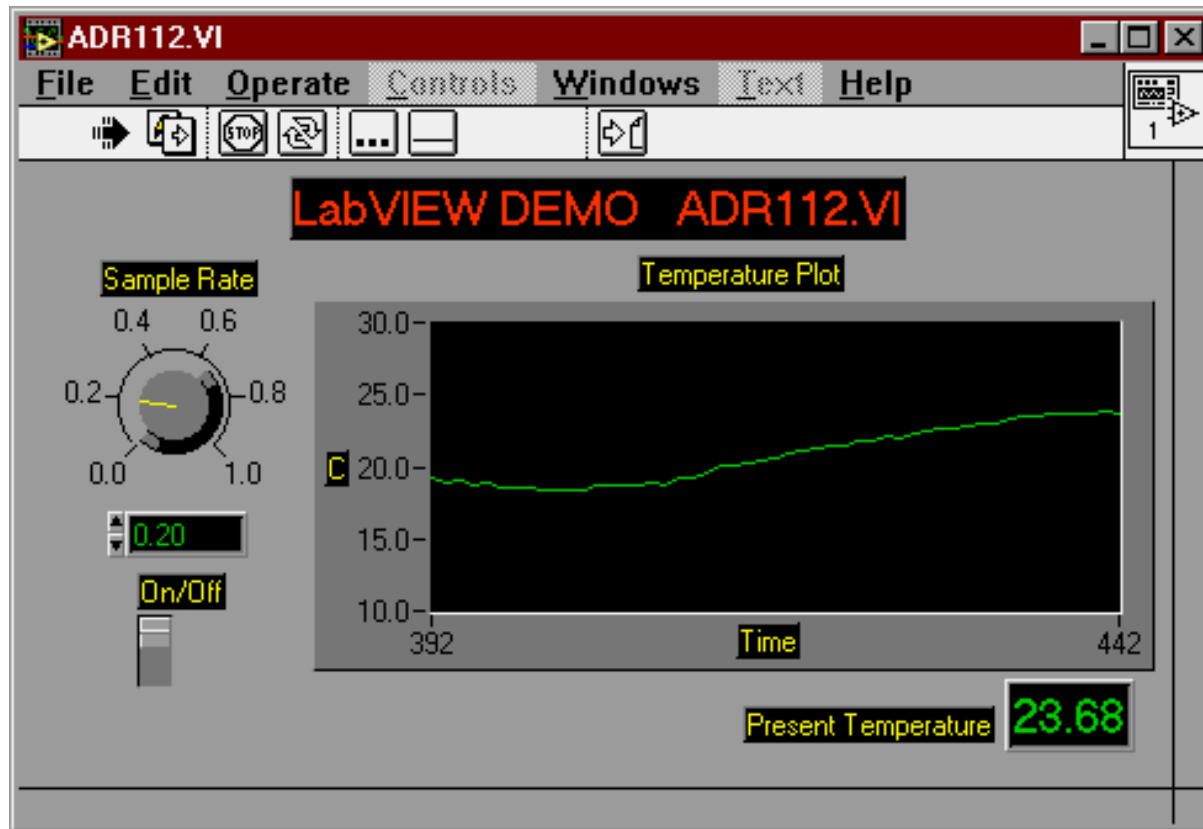

Figure 1: Final Operating Panel
- Figure 1 shows a final operating panel for the application in operation. The panel allows adjustment of the sample rate via a rotary knob, and displays temperature vs. time in a graph format. A digital reading of present temperature is also provided.